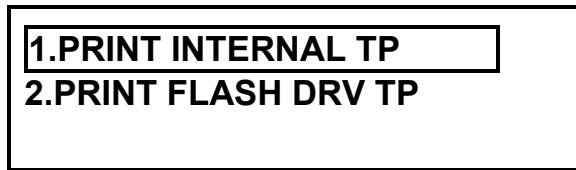

Figure 87.0 Print Test Plan With Thumb Drive Menu
- b. **Origin:** This menu is displayed after the operator selects menu option 1 (“Print Internal Tp”) from the “Print Test Plan With Thumb Drive Menu” (Figure 87.0).